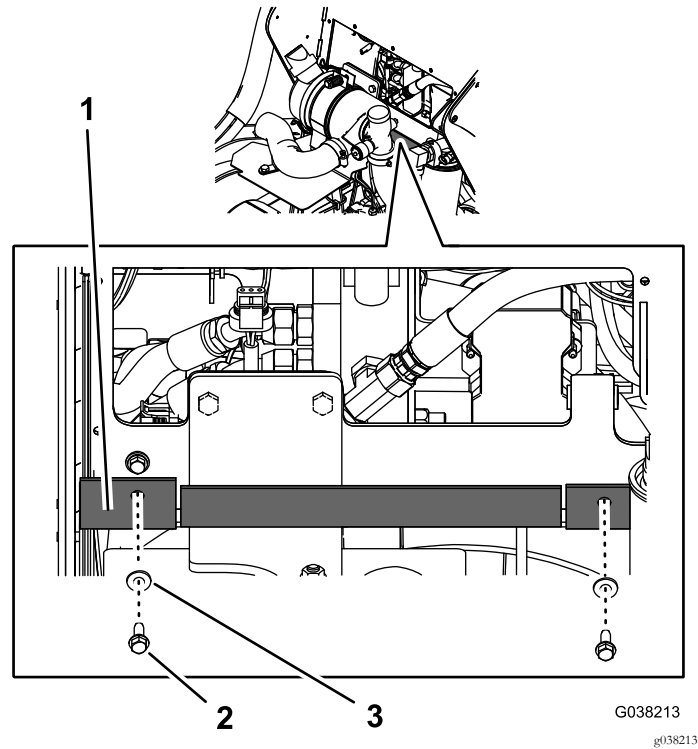

Figure 19
6. Install the 2 bolts and 2 washers to secure the rubber baffle to the machine (Figure 19).